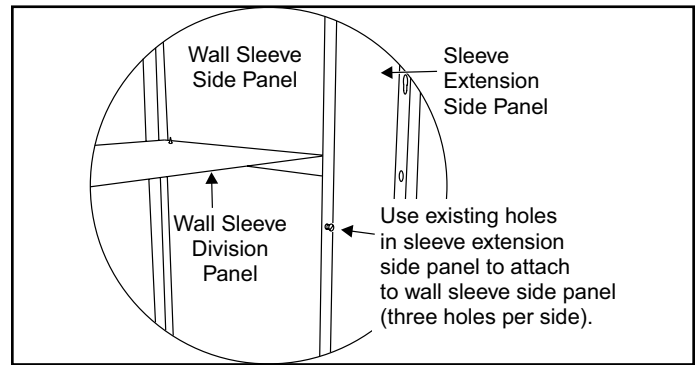

Figure 4. Attaching Side / Top Assembly
5. Use self-drilling screws (supplied) to attach side/top assembly to wall sleeve side panels (three screws per side). Use the existing holes in the side panels of the sleeve extension for screw locations (see Figure 4).